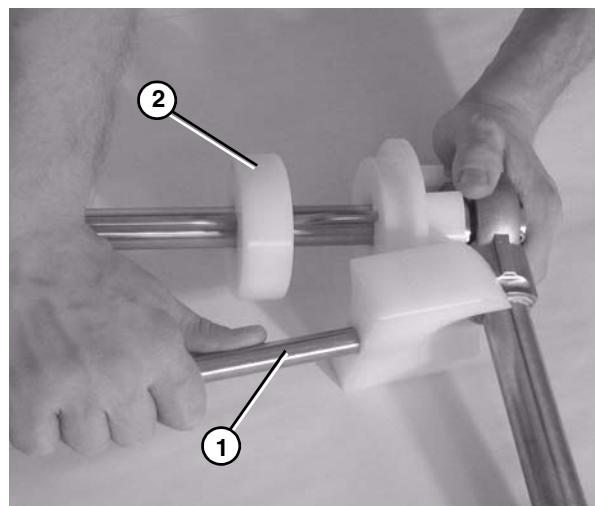

Figure 63
6. Remove the guard bar (**Figure 63, item 1**).
7. Remove the pucks (**Figure 63, item 2**).